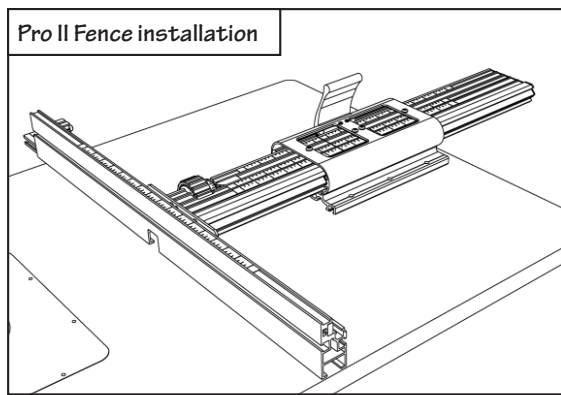

FIG. 7 Attach Pro II Fence
Carefully slide the carriage into the LS Base and pull the carriage clamp up into the fully locked position. Open the **Incra Pro II Fence Hardware Pack A-07**. Place a $\frac{1}{4}$ " washer on each of the (2) $\frac{1}{4}$ -20 x $\frac{1}{2}$ " socket head screws and insert through the slotted holes located on the steel fence mounting bracket. Loosely thread on the $\frac{1}{4}$ -20 rectangular nuts, then slide the nuts into the T-slot located on the rear of the Pro II Fence. Position the fence so that the carriage is approximately centered on the fence length and tighten the (2) mounting screws with the supplied hex tool, **Fig. 7**.